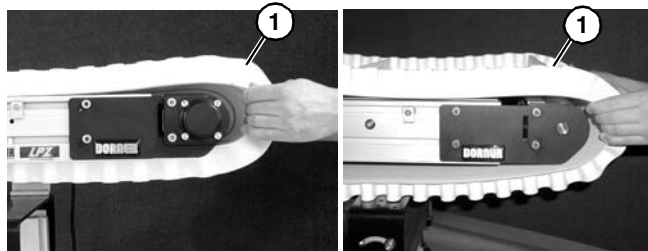

Figure 32
3. Install belt (**Figure 32, item 1**) on conveyor. Lift conveyor slightly to avoid pinching belt on temporary support stands.